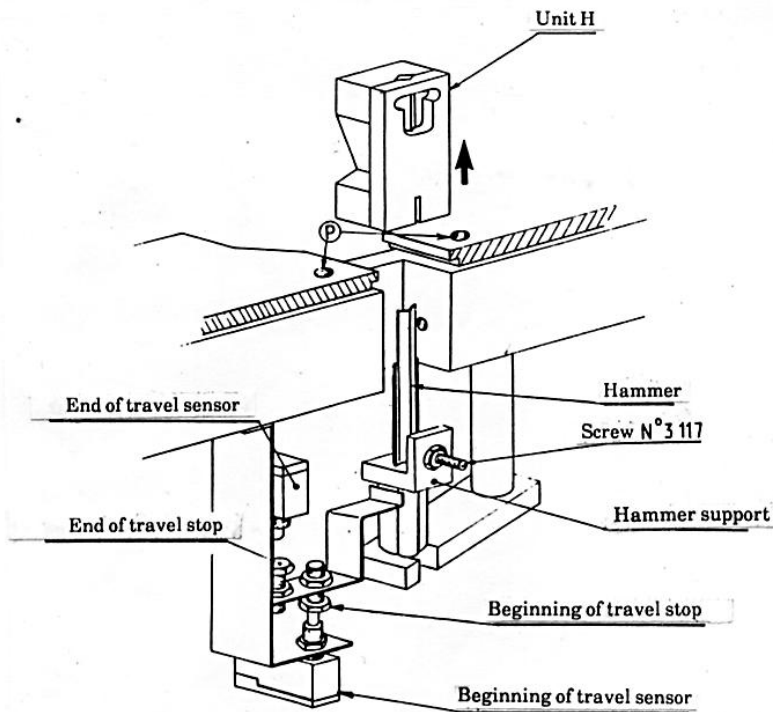

FIGURE 17
### I - CHANGING THE HAMMER (FIGURE 17)
- 4) Through the two holes (P) Fig 17, and using a 2.5 mm Allen wrench, unscrew the retaining screws (P) in the unit and free the latter in an upwards movement
- 7) Reassemble the unit (H) and bring the screws (P) into contact until the unit (H) comes to a stop.